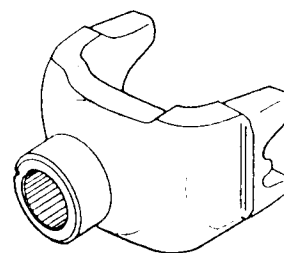

Figure 1
4. Remove slinger from end yoke and clean yoke surface that will be in contact with Seal. Use Emery cloth to remove any build-up present in the area shown. (See Figure 1)